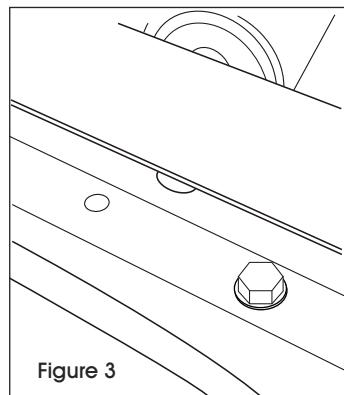

Figure 3
3. Insert two bolts with split washers into lined-up bolt holes and hand tighten with washers and nuts to secure. Repeat for opposite side. Once secured, use wrench to tighten. (See Figure 3)